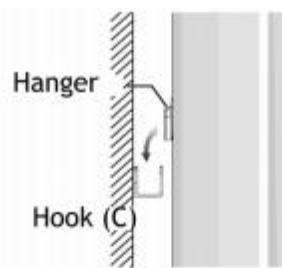

Fig. 9
5. Hang the appliance on the two hooks (C) on the wall. Ensure that the appliance is correctly secured to the two hooks. (Figure 9).